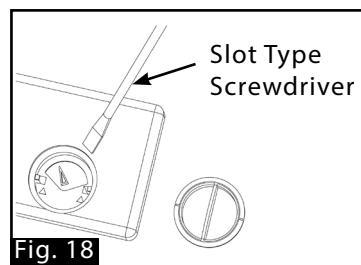

Fig. 18
4. Adjust setting based on use. The default setting is 3 (Fig. 18). The higher the number the more rinse aid will be used. If cookware is greasy after running a load, lower the setting and wash again.